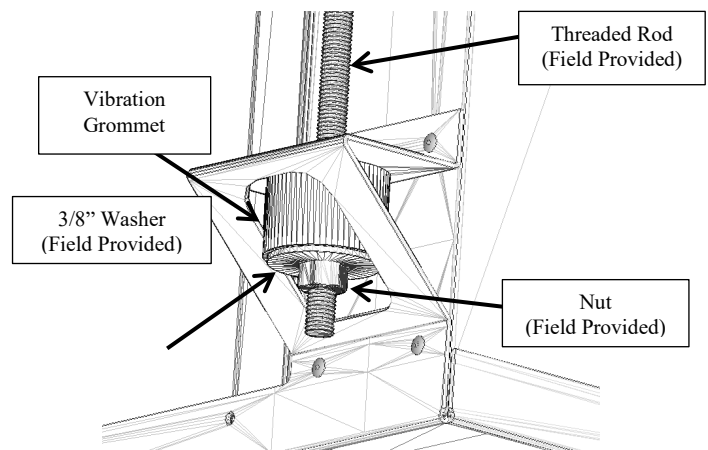

Figure 3 - Mounting Horizontal Units
To properly support the horizontal WSHP unit and reduce sound and vibration, it must be mounted level in both horizontal directions. These units are designed to be suspended via threaded rod (field provided) through all four hanger brackets using the four (4) vibration grommets (factory provided) and 3/8" washers (field provided) and as shown in Figure 3.